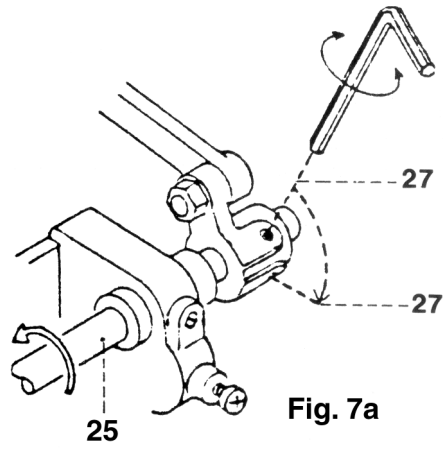

Fig. 7a
- Loosen screws 27 with a 2.5 mm Allen key (fig. 7a).